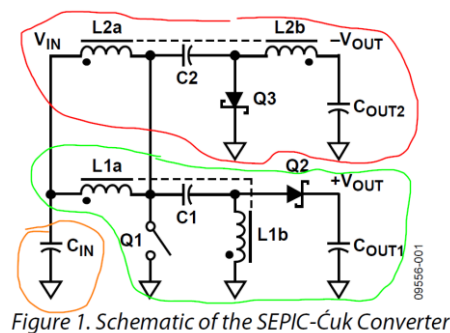

Figure 1. Schematic of the SEPIC-Ćuk Converter
- 5.1. The circuit schematic in the application note Figure 14 is simply bad. *Try to draw a better schematic*, especially the part with the SEPIC and Ćuk topology parts. Imitate the circuit in Figure 1 of the application note, where both converters are drawn in "the standard way" (see below).